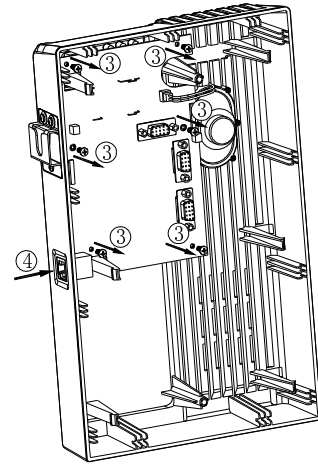

Figure 4
3. Use a screwdriver to remove the six screws (ST3.0X8.0) □ that secure the control panel, shown as Figure 4.
4. Gently press and remove the RJ45 port □ from the front panel, then pull out the speaker cable to remove the controller PCB, shown as Figure 4.